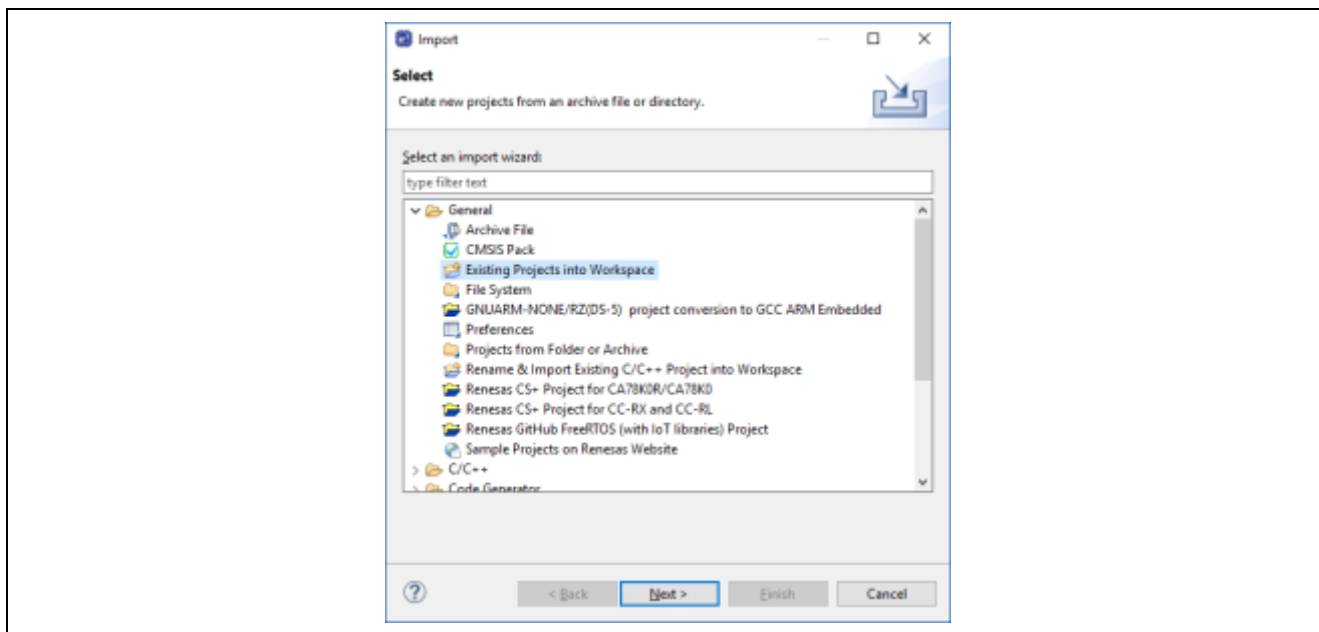

Figure 4-2. Import sample project (1)
4. Double-click General and select Existing Projects into Workspace as shown in Figure 4-2: